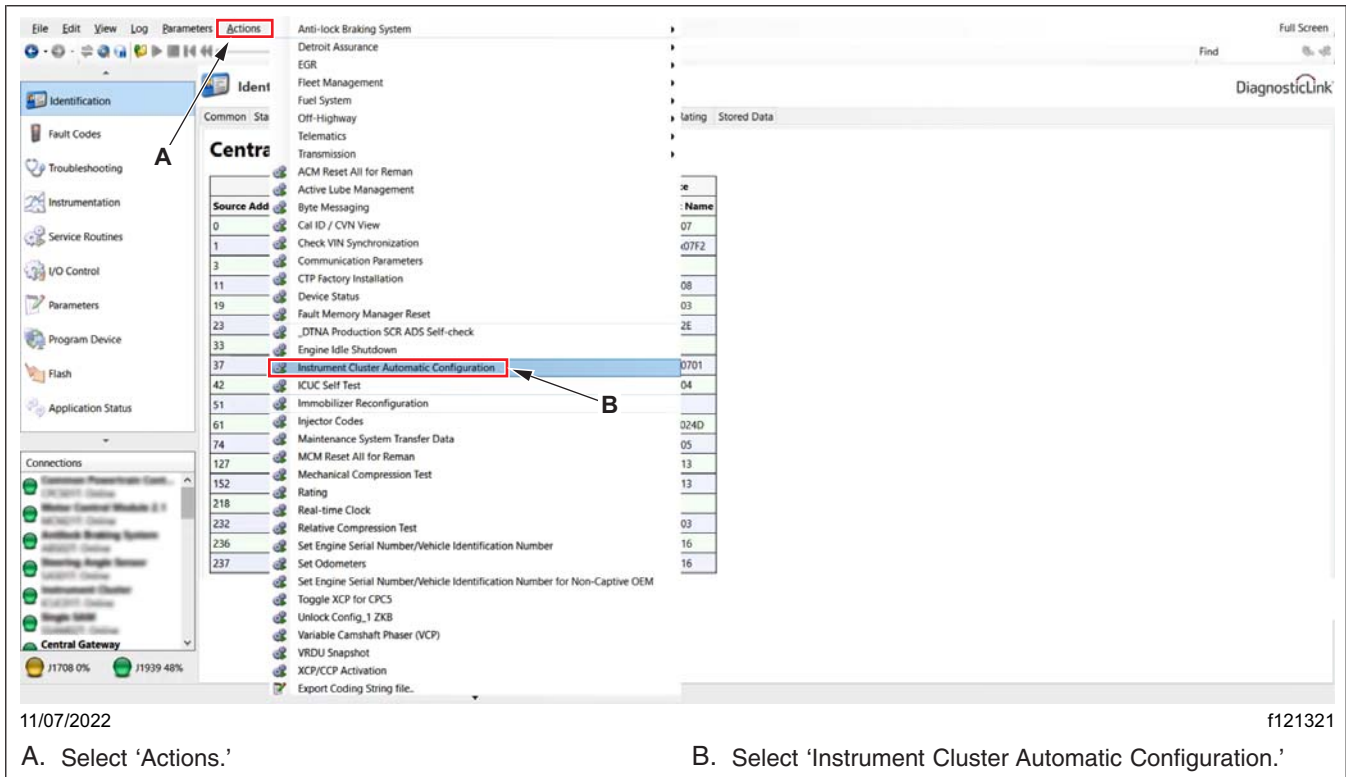

Fig. 14, Opening the Instrument Cluster Automatic Configuration Window
23. From the menu bar, select 'Actions,' then go to 'Instrument Cluster Automatic Configuration.' See Fig. 14.